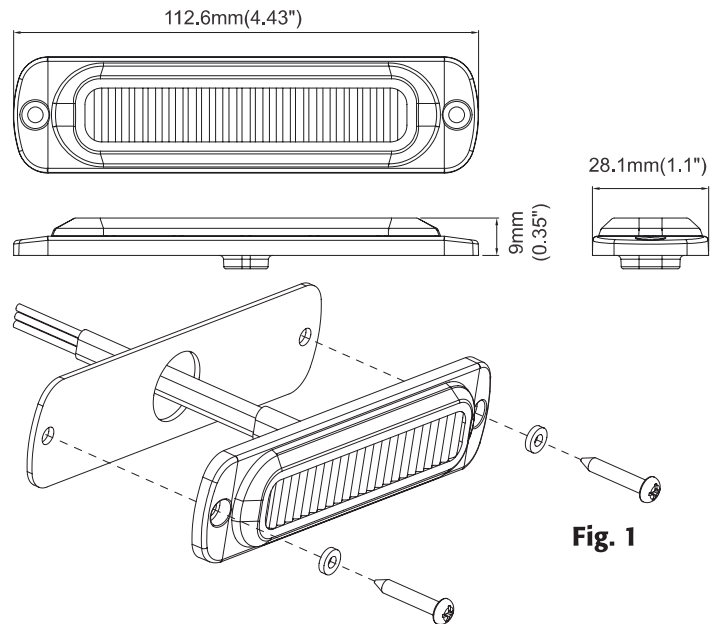

Fig. 1
*Horizontal mount shown in Fig. 1.